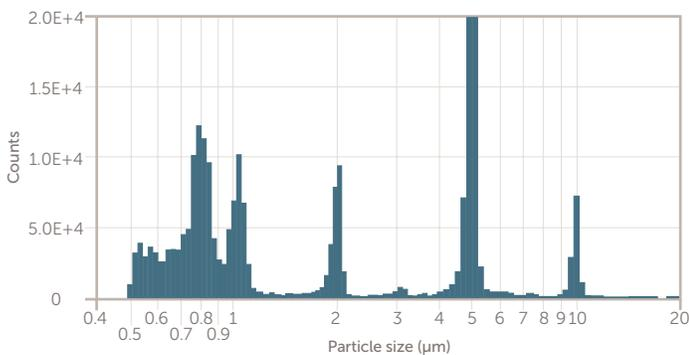

Figure 1. Six peaks resolved between 0.5 – 10 µm.
- Split multiple peaks to baseline (Figure 1)